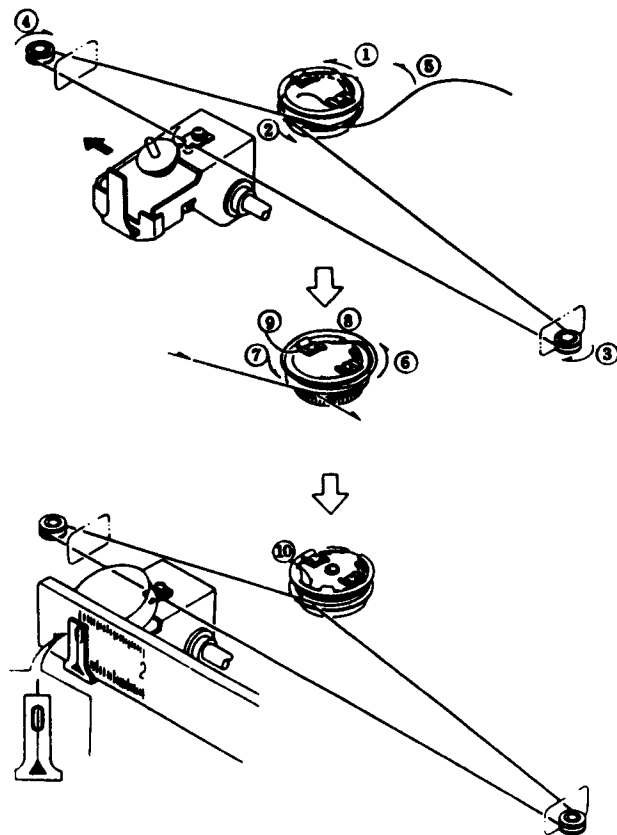

Figure 5-1. Drive Cord Replacement
1. Fasten one end of the drive cord (see Figure 5.1) to the pulley detent with its holdfast (#1).
2. Attach the drive cord according to the sequence shown in Figure 5-1. Pull the cord firmly and pass it over the pulley twice, then fasten it to the pulley holdfast.